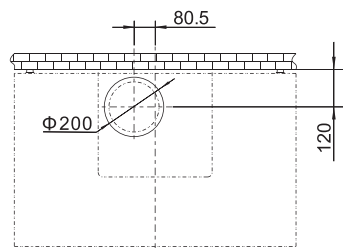

Figure 2
- As figure (1), drill three holes of Φ10mm horizontally on the wall, hole depth 50mm, and hole spacing 109mm;
- Install the air duct cover (if needed): If the kitchen room has suspended ceiling and flexible duct through the ceiling (the opening size as Figure 2);